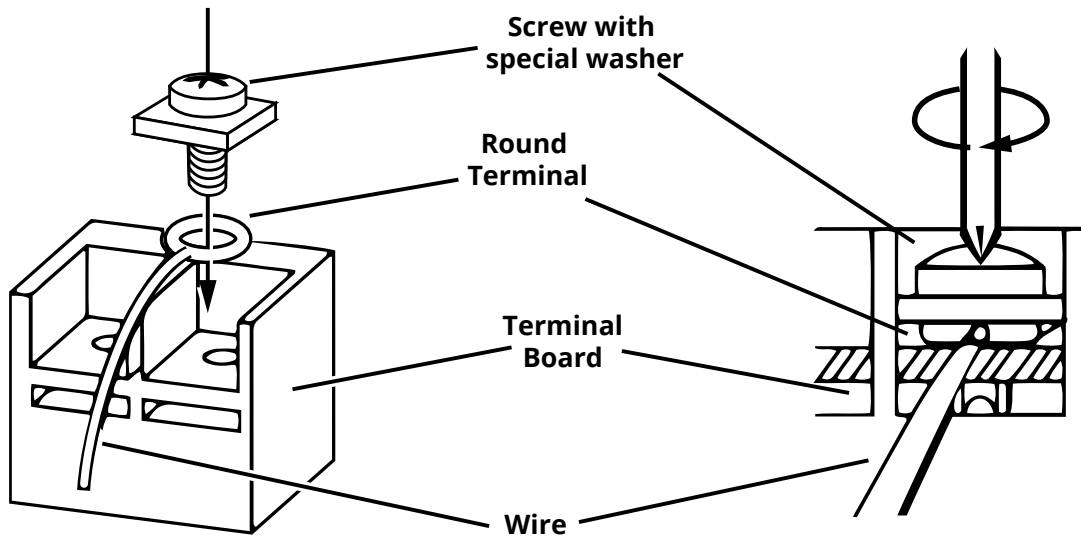

Fig. 2.28
#### For braided wires (Refer to Fig. 2.27 B & Fig. 2.28):
4. Locate the round terminal conduit. Use a screwdriver to replace it and tighten up the terminal screw (as shown in Fig. 2.28).